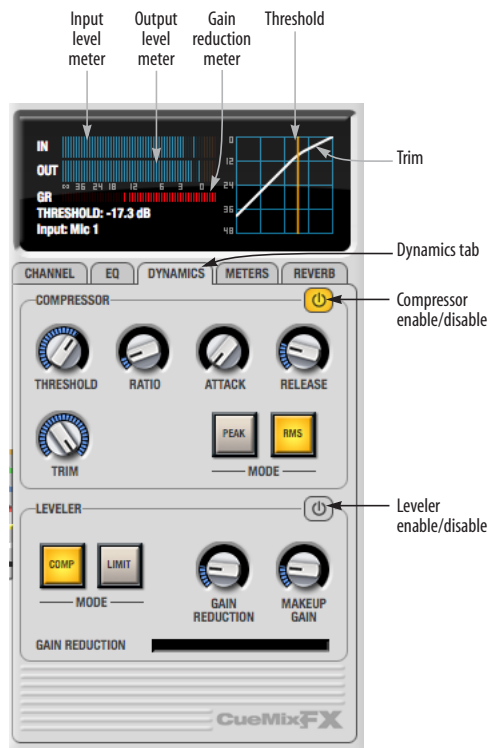

Figure 11-21: The Dynamics tab.
The Dynamics tab (Figure 11-21) displays the Dynamics processing settings for the input or output channel that currently has the focus. Click any focus button in the Inputs or Outputs tab to view the Dynamics tab settings for the channel.
Each input and output channel has a global *Dynamics enable/disable* button (Figure 11-3 and Figure 11-6). This button enables or disables all dynamics processing for the channel. In addition, the Dynamics tab has two different dynamics processors, the Compressor and Leveler, which can be individually enabled or disabled (Figure 11-21) for the channel.
The *Compressor* (Figure 11-21) lowers the level of the input when it is above the threshold. The amount of attenuation is determined by the *Ratio* and the input level. If the input is 6 dB above the *Threshold* and the Ratio is 3:1, then the output will be 2 dB above the Threshold. When the input level goes above the threshold, the attenuation is added gradually to reduce distortion. The rate at which the attenuation is added is determined by the *Attack* parameter. Likewise, when the input level falls below the Threshold, the attenuation is removed gradually. The rate at which the attenuation is removed is determined by the *Release* parameter. Long Release times may cause the audio to drop out briefly when a soft passage follows a loud passage. Short Release times may cause the attenuation to pump when the average input level quickly fluctuates above and below the Threshold.
The Threshold can be adjusted by turning the Threshold knob or by dragging the Threshold line directly in the compressor graph (Figure 11-21).
The *Input Level* meter (Figure 11-21) shows the level of the input signal before it enters the compressor. It shows either the peak level or the RMS level, depending on which mode is currently chosen.
The Gain reduction (GR) level meter (Figure 11-21) displays the current amount of attenuation applied by the compressor.
The *Output Level* meter (Figure 11-21) displays the peaks of the output signal. Trim is applied before the Output Level meter.
The Leveler™ (Figure 11-21) provides an accurate model of the legendary Teletronix™ LA-2A® optical compressor, known for its unique and highly sought-after Automatic Gain Control (AGC) characteristics. The 828mk3 Leveler faithfully models the LA-2A using the on-board DSP with 32-bit floating point precision.
The *Comp* and *Limit* buttons (Figure 11-21) model the original LA-2A Limit/Compress mode switch. The effect is very subtle, with the Limit option behaving only slightly more like a limiter than a compressor. The switch increases the level of the input to the AGC model and runs the attenuator at a slightly lower level. The Leveler then responds more strongly to transients, but otherwise still behaves like a leveling amplifier.
Gain Reduction (Figure 11-21) sets the strength of the signal sent to the AGC model.
Makeup gain (Figure 11-21) amplifies the output signal to make up for gain reduction.